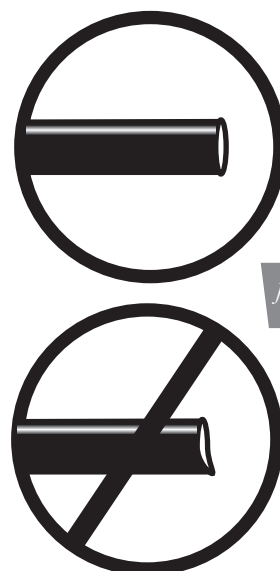

fig. 13
- a. Check the air line connection by deflating the spring and removing the line by pulling the collar against the fitting and pulling firmly on the air line. Trim 1" off the end of the air line. Be sure the cut is clean and square (see fig. 13). Reinsert the air line into the push-to-connect fitting.
2. If the preceding steps have not resolved the problem, call Air Lift customer service at (800) 248-0892.